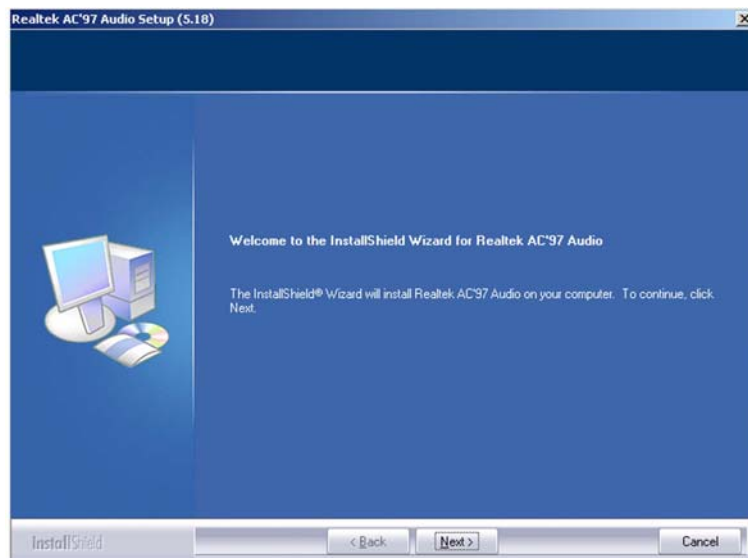

Figure 7-30: AC`97 Audio Driver Welcome Screen
Step 6: After the install shield is prepared, the welcome screen shown in **Figure 7-30** appears. To continue the installation process, click the **"NEXT"** button. The install shield starts to configure the new software as shown in Error! Reference source not found..